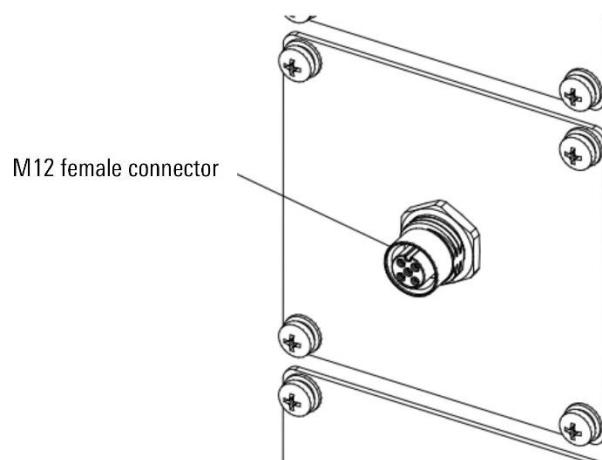

Figure 17-8 M12 female connector
Step2. Install the M12 female connector (reference Figure 17-8) on the M12 connector mounting plate.